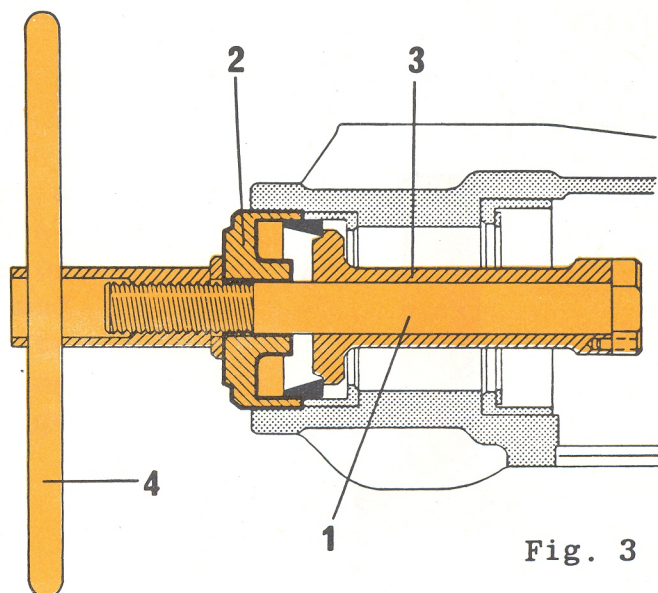
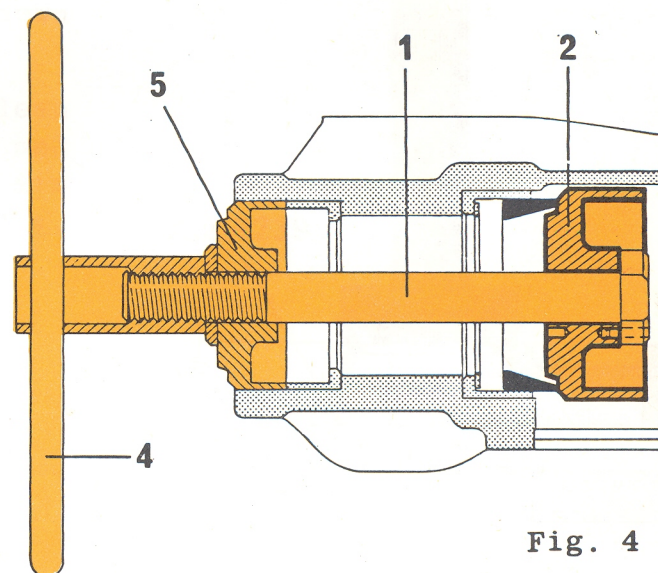

Fig. 3
Fig. 4
**7** Fit the cup "2" and the handle "4" to the screw "1". Rotate the handle to withdraw the race (see fig. 3).
To fit the rear bearing outer race, reverse the withdrawal position of the cup "2" (see fig. 3). Place the race to be fitted in position on the tool; clean with compressed air the bearing race seat and insert the unit so assembled into the pinion housing (see fig. 4).
**9** Fit the cup "5" and the handle "4" to the screw "1"; rotate the handle taking care to keep the tool aligned with the bore centreline to drive the race into its seat (see fig. 4).